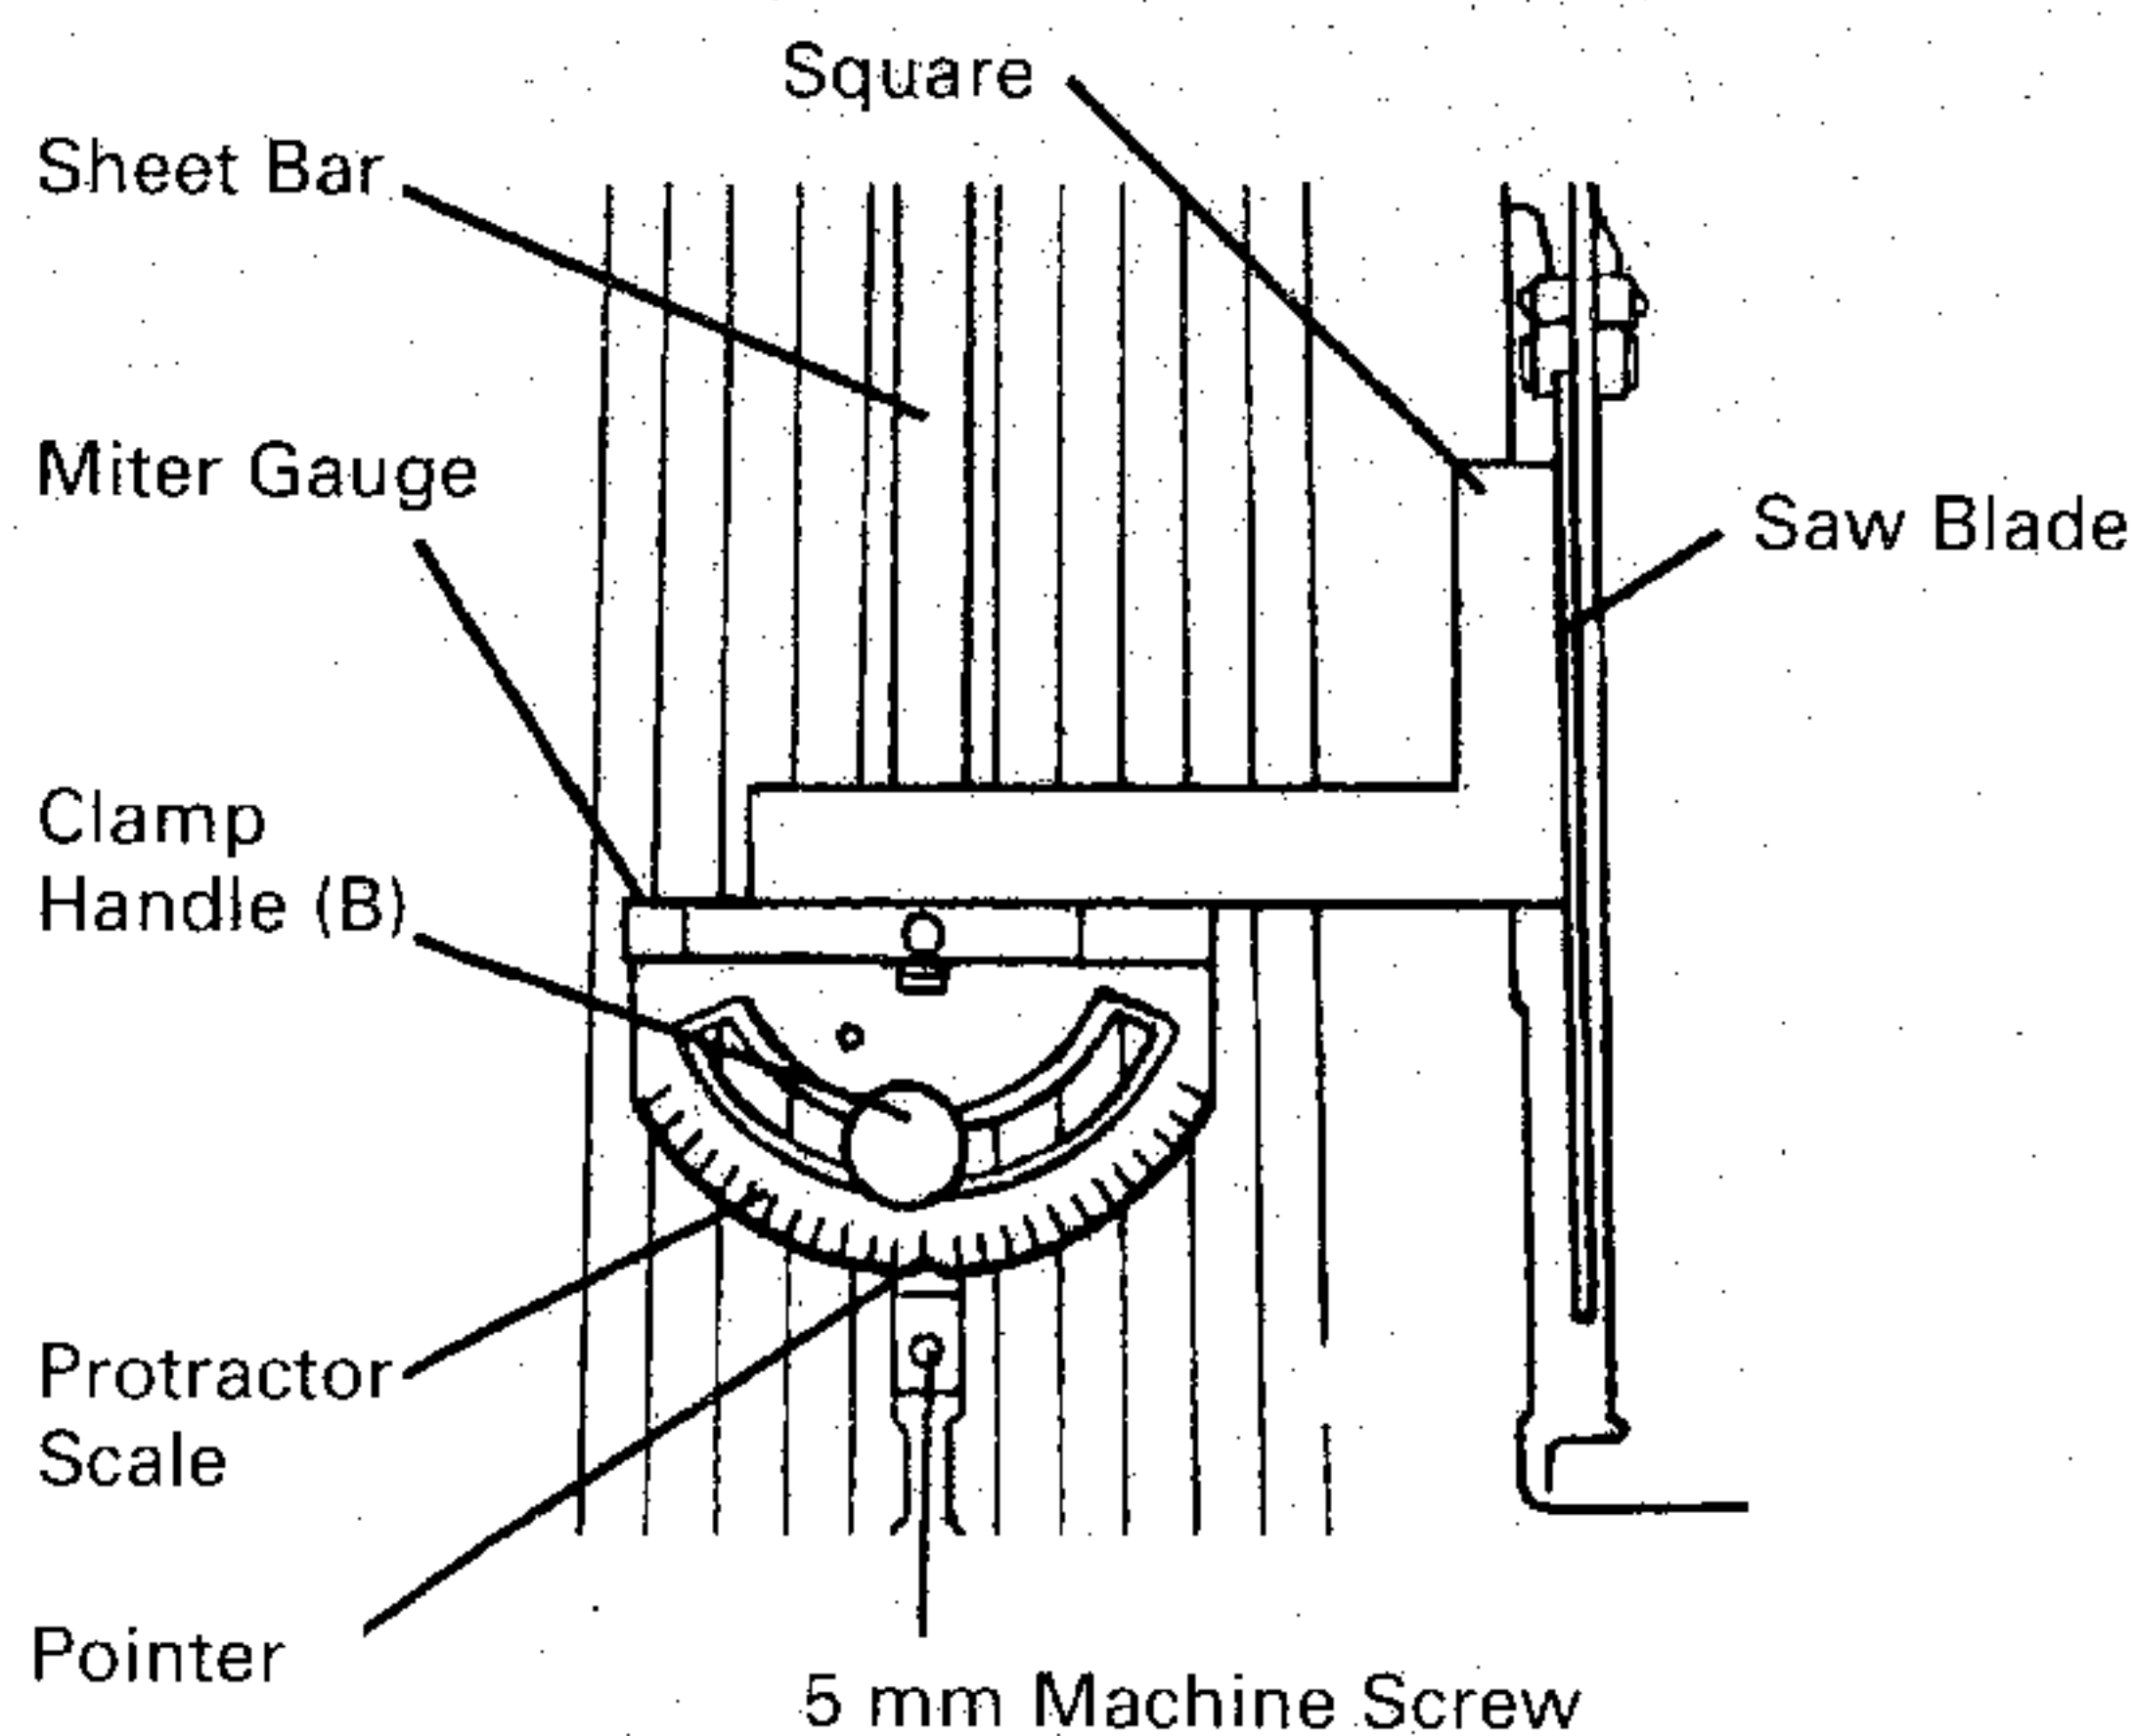

Fig. 18
- (1) Loosen the clamp handle (B) and place a square against both the saw blade and miter gauge. The pointer should indicate 90° on the protractor scale on the miter gauge.
- (2) If the pointer does not point to 0 on the miter gauge,
- ① Tighten clamp handle (B).
- ② Loosen the 5 mm machine screw on the sheet bar.
- ③ Adjust the pointer to the 90° position and tighten the 5 mm machine screw on the sheet bar (see Fig. 18).
- ④ After adjustment, recheck to see that the pointer now points to 0.